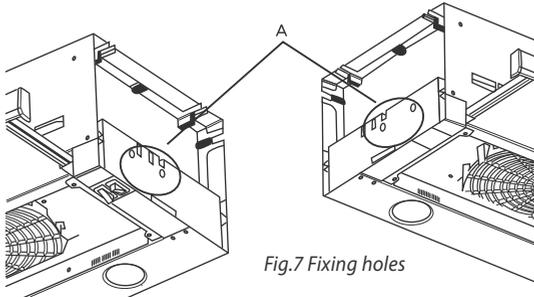
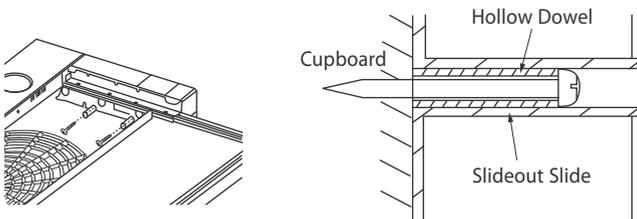

Fig.7 Fixing holes
Fig.8 Side mounting
- 1 Slide out the drawer and remove filter. You will see two mounting holes running through the moulded sides (see Fig.7).
- 2 ~~Remove the thin plastic skin (A) from each side fixing hole. An 8 mm diameter drill bit is recommended.~~
- 3 Position slideout (ensuring unit is level) and fix in place using screws and hollow dowels through each side fixing hole (see Fig.8). (Check screw length with thickness of cabinet panels).